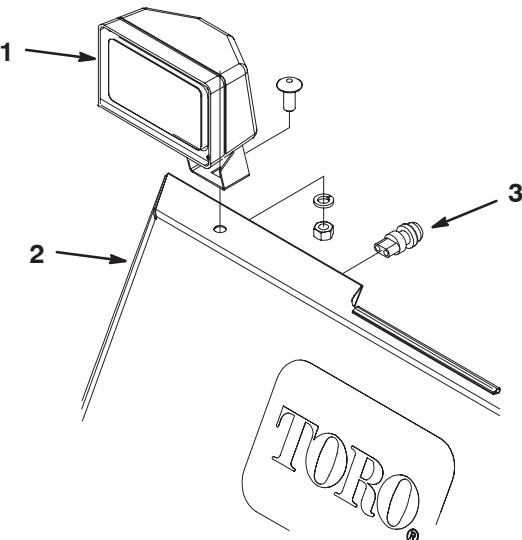

Figure 12
1. Secure the headlight assemblies to the top of the front shroud with carriage bolts, lock washers and nuts (Fig. 12).
9. Secure the horn button to the front shroud with a jam nut (Fig. 12).